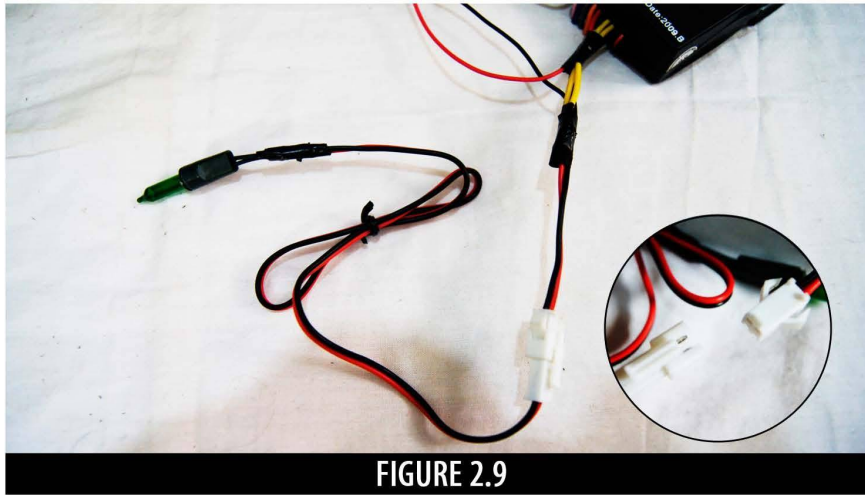

FIGURE 2.9
13. Connect the male plastic connection from the receiver to the female plastic connection from the lamp light as shown in Figure 2.9 below.